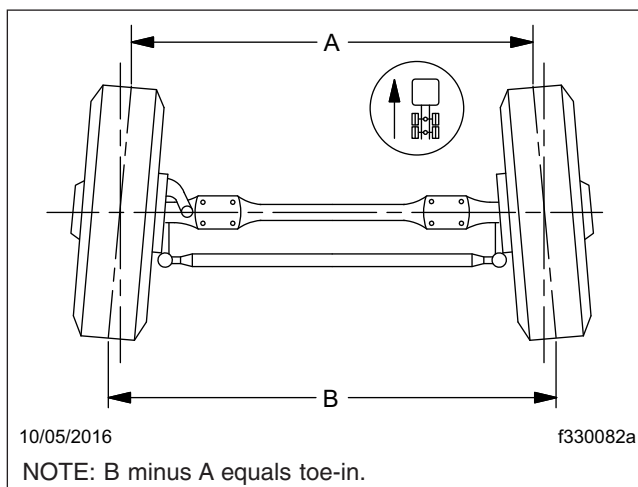

Fig. 5, Wheel Toe-In (overhead view)
6. Place a trammel bar at the rear of the front tires; locate the trammel pointers at spindle height, and adjust the pointers to line up with the scribe lines on the center ribs of the front tires. See Fig. 5. Lock in place. Check that the scale is set on zero.
- 5.1 Fill the axle through the oil fill hole. Lubricant should be level with the bottom of the oil fill hole. To check fluid level, see **Fig. 5**.